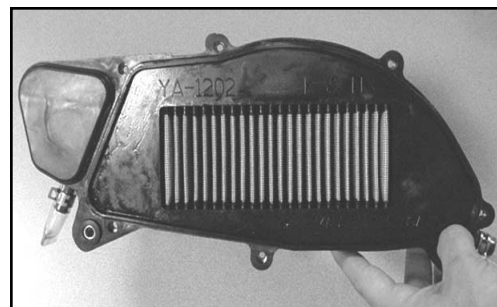

Fig. 4
4. Install the K&N Filtercharger® into the air box base. Make sure it is completely seated. (Fig. 4)